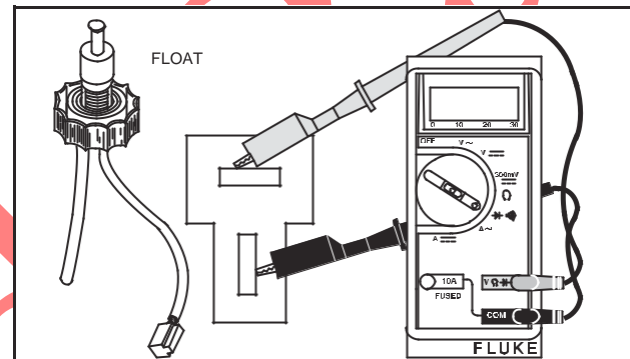

Fig. 20 – Checking Sensor
2. While holding drain plug in vertical position, raise float to end of travel, Fig. 20.